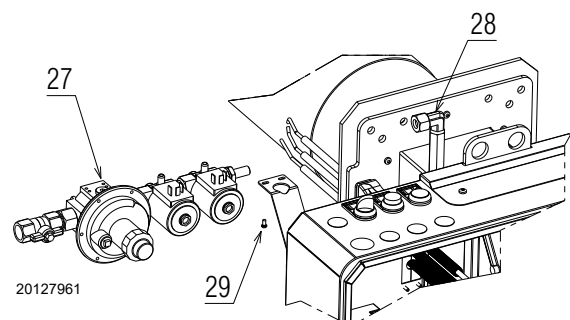

Fig. 20
- insert the pilot train 27)(Fig. 20) on connector 28) and tighten the nut fully home;